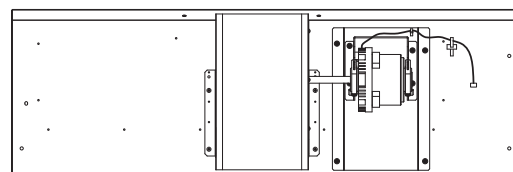

Fig.4
- (1) As shown in Fig. 4, reinstall the motor cable in its original position and reset it on the control board.